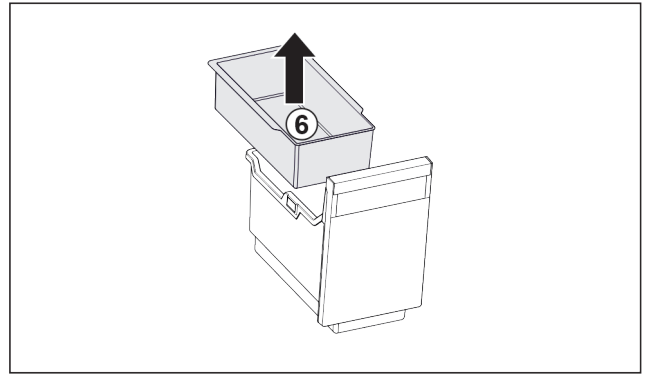

Fig. 26
- Remove the hang-on tray Fig. 26 (6).